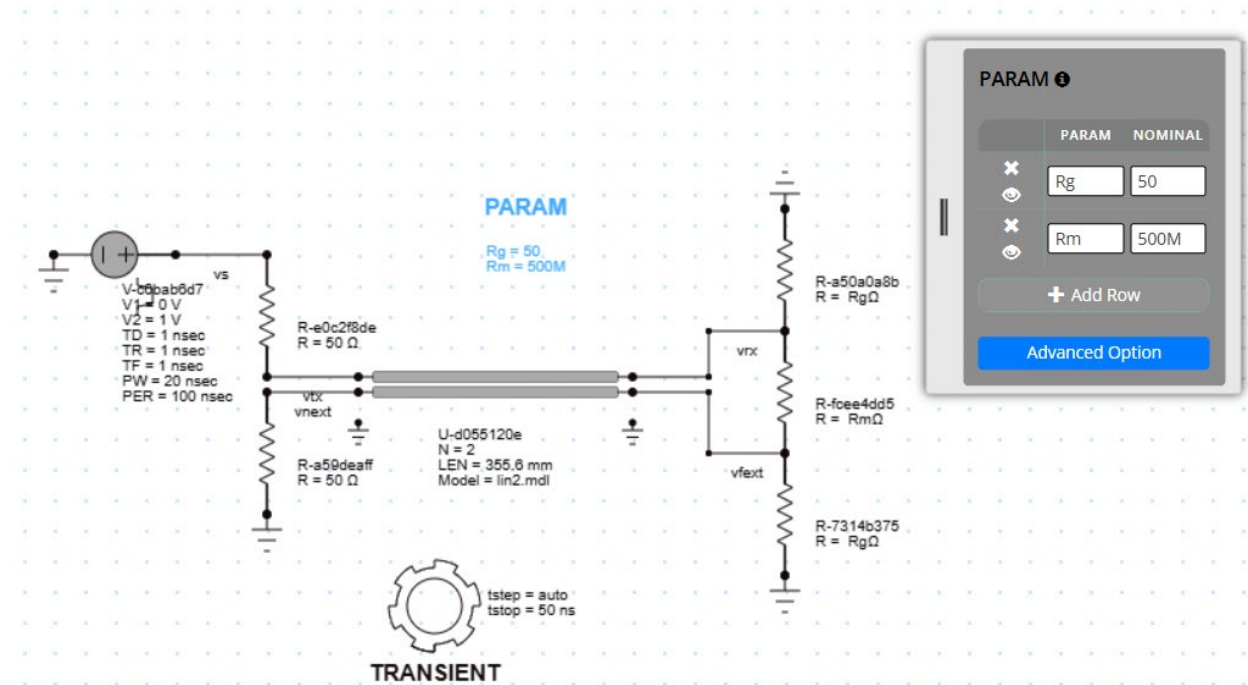

Figure 4. Terminated coupled-line with a parametric  $\pi$ -network
3. Terminate the far-ends of the lines with a  $\pi$ -network. In Figure 4, we use a **PARAM** element to define **Rm** and **Rg** resistors. **Rg** is the value of the shunt resistors (to ground), **Rm** is the value of the mutual resistor (connecting the two lines).
Figure 4 shows a naive termination,  $R_g = 50\ \Omega$ ,  $R_m = 500\text{M}\Omega$ . This is when you terminate the coupled-line as if they were non-coupled single lines. Show the NEXT and FEXT result in this case.